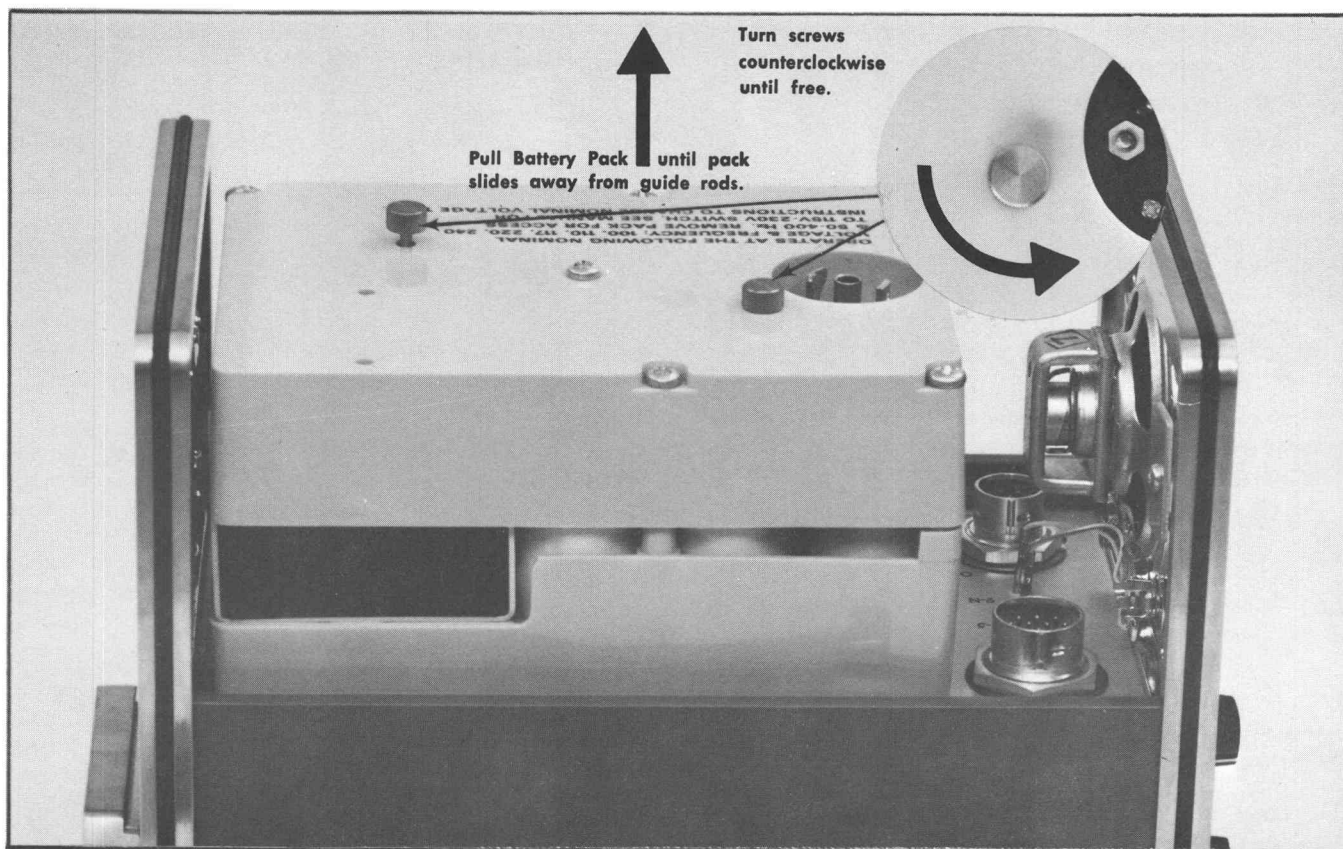

Fig. 2-9. Removing the Battery Pack.
3. Remove the battery pack as shown in Fig. 2-9.